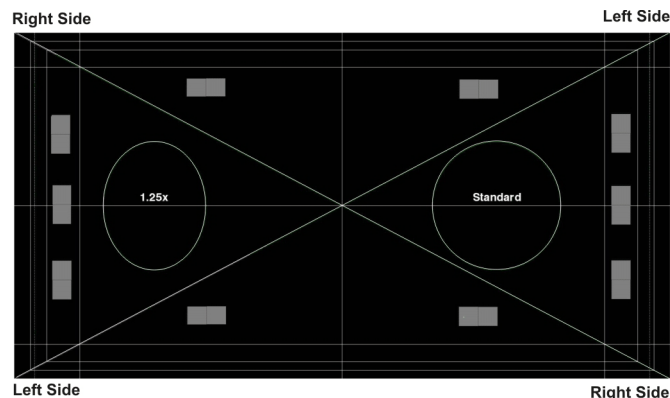

Figure 4-4 Example of Framing Test Pattern
9. Check the screen each time an adjustment is made. The right-side adjustments affect the top right and bottom left points on the screen (Figure 4-4). Once both cross hairs are in focus lock the set screw for right boresight.